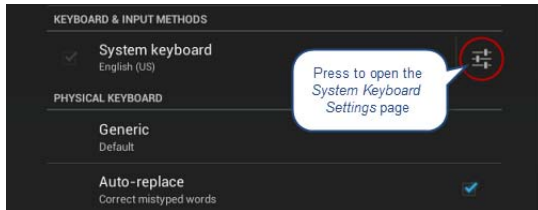

FIG. 72 Keyboard Options window
- Press **Set up input methods** to open the *Keyboard Options* window (FIG. 72).